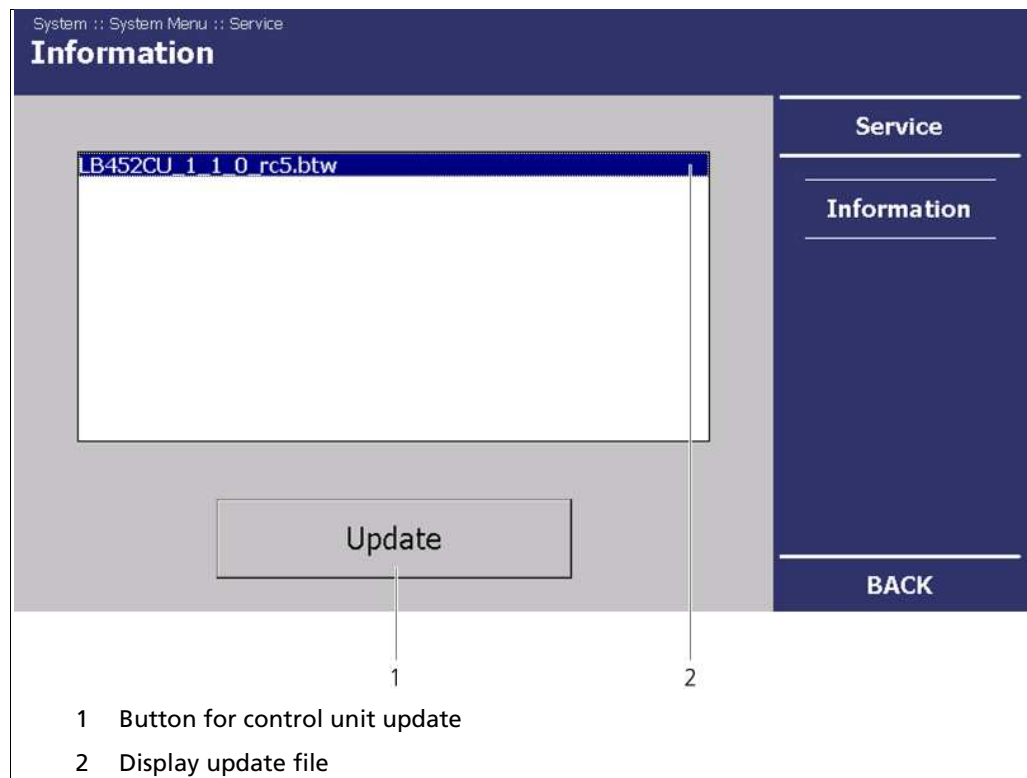

Fig. 43 System Menu, Service - Information (Control unit update)
4. Select the appropriate update file (Fig. 43, Pos. 2).
5. Click on <Update> (Fig. 43, Pos. 1).